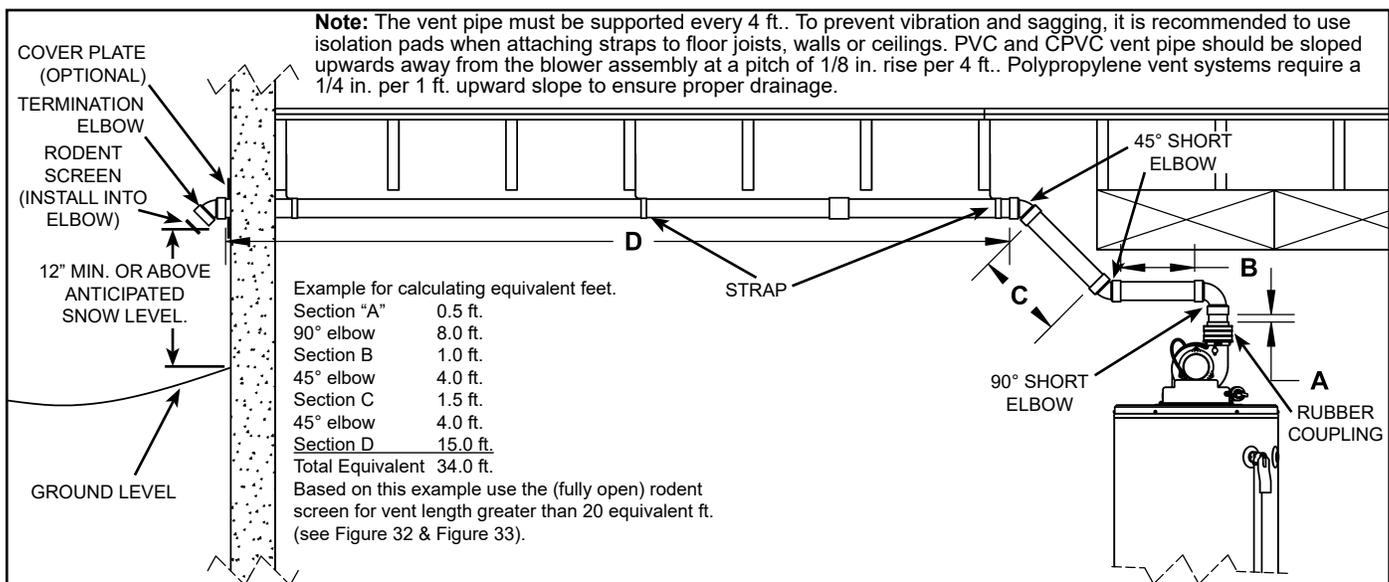

Figure 34.
This heater is designed to exhaust the products of combustion (flue gases) to the outdoors using a sealed piping system. Table 2 lists the allowable vent materials and sizing information. Figure 34 shows the general venting layout while Figure 38 through Figure 42 show various end termination details and clearances. Connection of the venting piping to the blower is shown in Figure 38 through Figure 42.
- Refer to Figure 34 and Table 2 for vent pipe materials and sizing. Examples of the vent terminations are shown in Figure 35 & Figure 36. If the installation requires a vent riser, suitable drainage must be provided to ensure condensation does not accumulate. Termination through a roof is shown Figure 37.
Installed in the vent termination elbow, the vent screen is required to keep foreign objects, rodents and small birds from entering the venting system. These screens have been sized to ensure maximum energy efficiency of the vent system based on the "equivalent length" of the vent piping. **CHOOSE ONLY the ONE SCREEN THAT MATCHES YOUR VENTING CONFIGURATION** (see Figure 32 & Figure 33). How to determine the "equivalent length" is shown in Figure 34 and in Table 2.
5. Calculate “Equivalent Vent Length” before starting. Do not exceed the values shown in Table 2. An example of how this length is determined is shown in Figure 34. The value from your calculations should also be used to determine which rodent screen to install into the vent termination elbow.